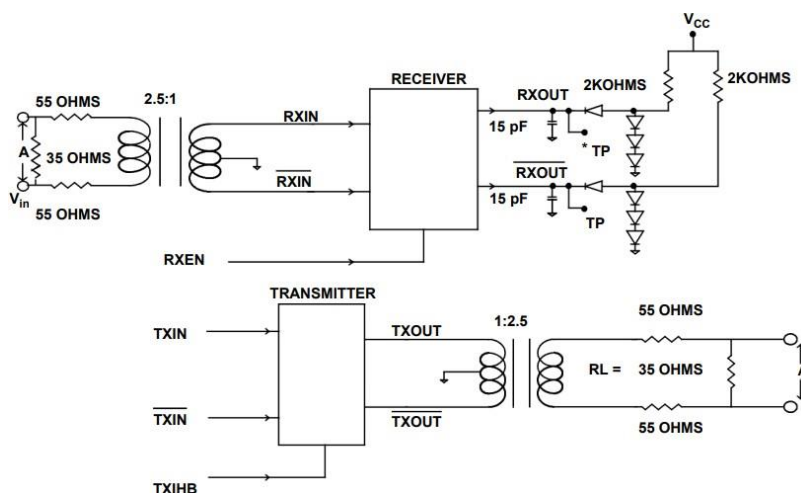

Figure 6. Direct Coupled Transceiver with Load
2. Direct Coupled Stub: Terminal is defined as transceiver plus isolation transformer and fault resistors. Point A is defined in figure 6.
- All tests guaranteed per test figure 6.
1. All tests guaranteed per test figure 6.